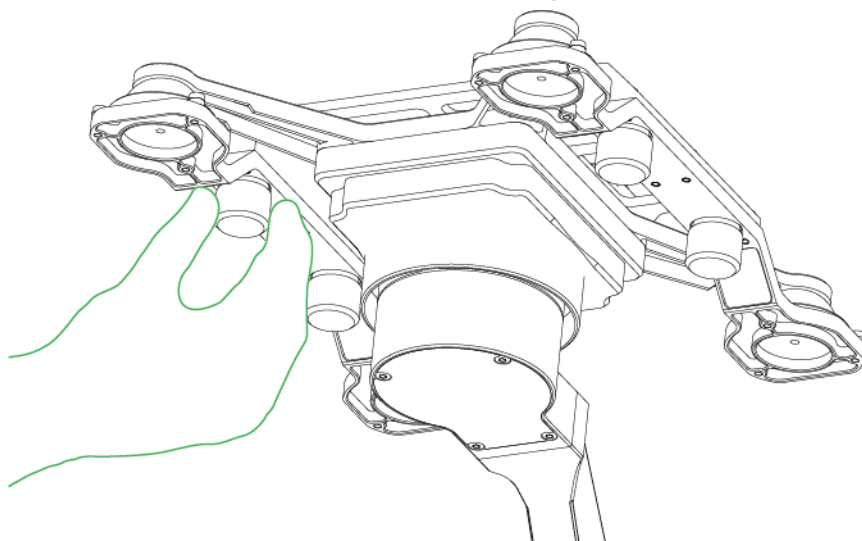

Figure 3-2
Step 2 Align 4 installation screws with bottom holes of the aircraft, and tighten them. Fix PTZ camera onto the aircraft, as shown in Figure 3-2.